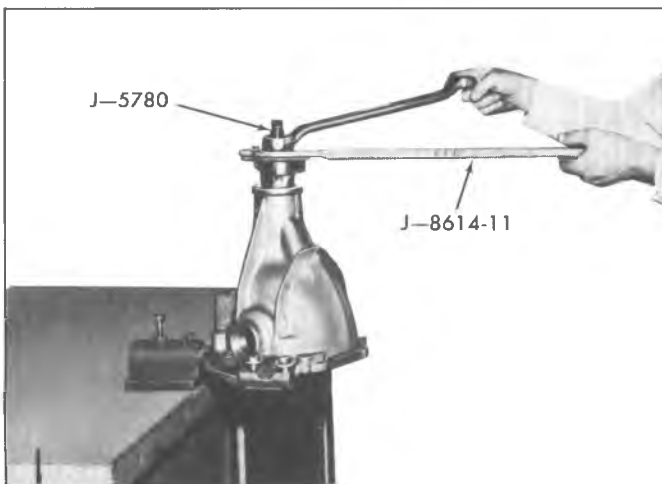

Fig. 24C—Installing Companion Flange
6. Install companion flange using Holder J-8614-11 and Installer J-5780. See Figure 24C.